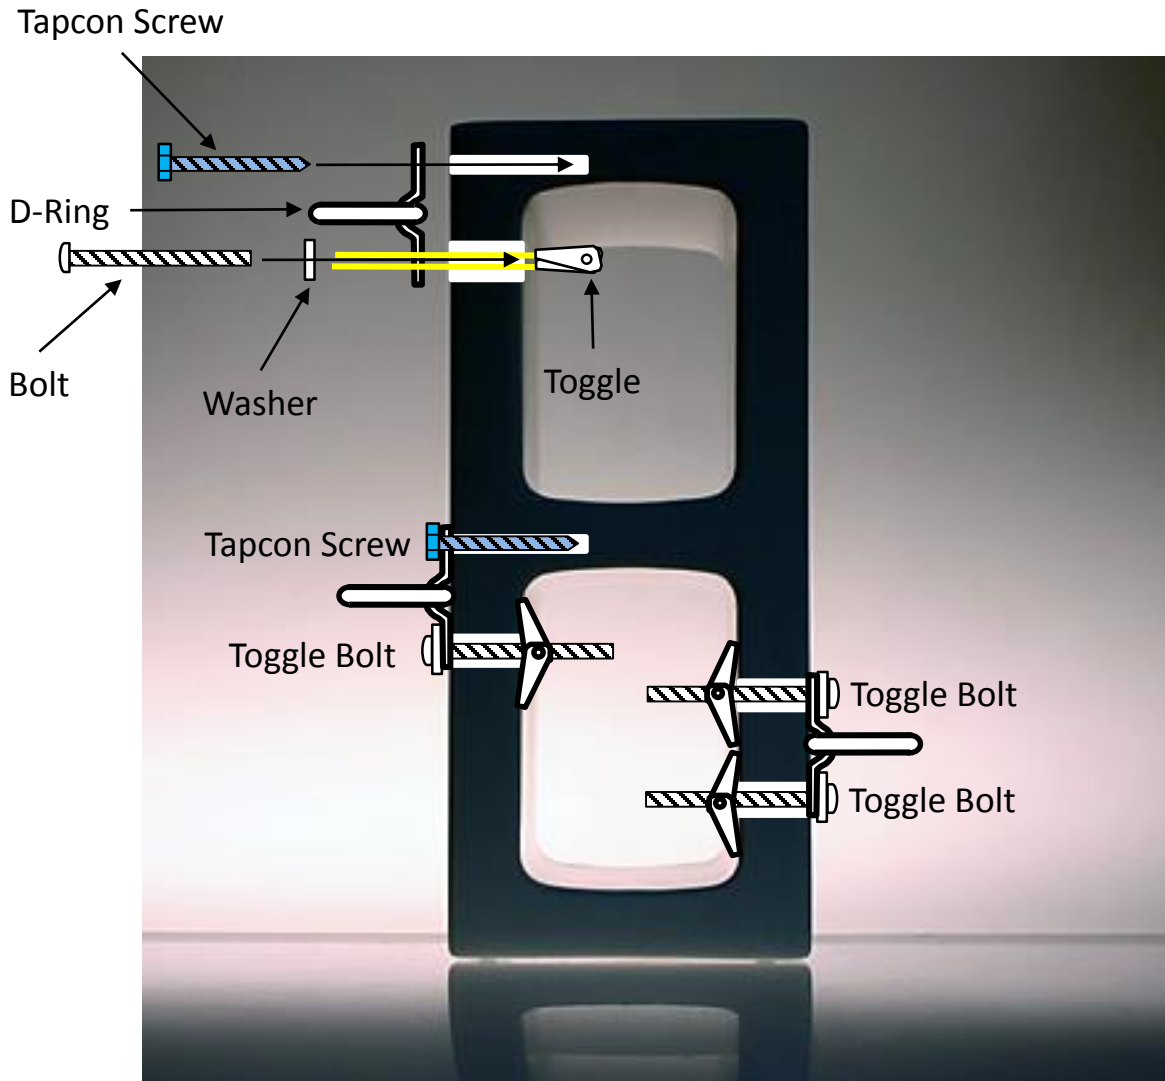
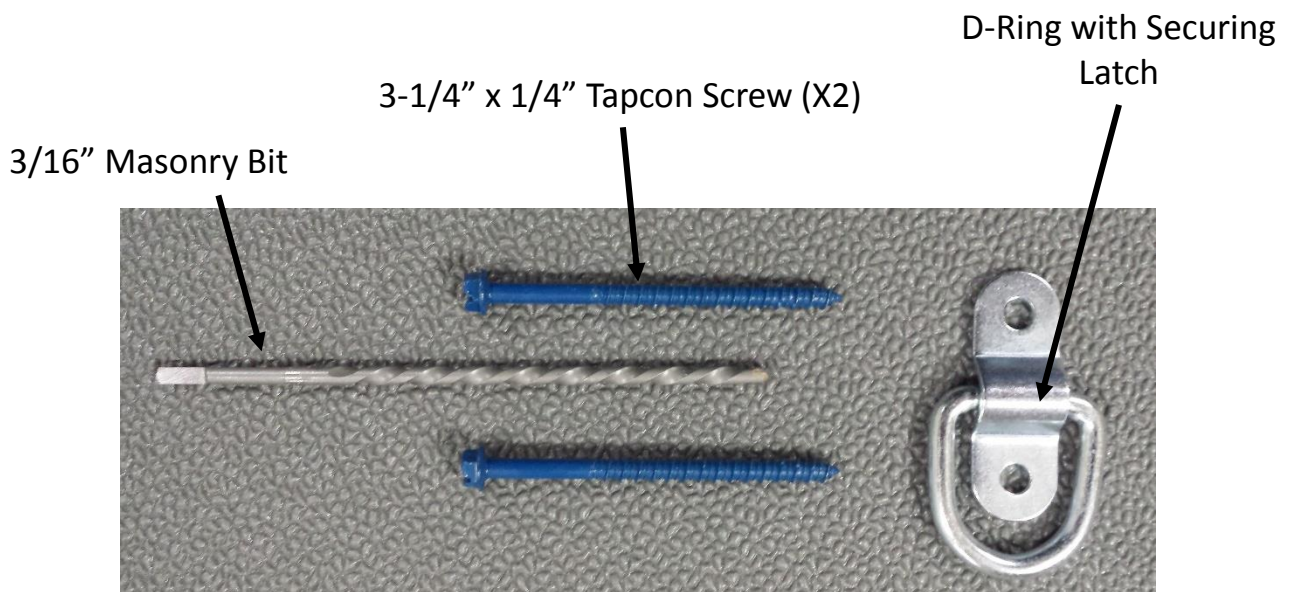
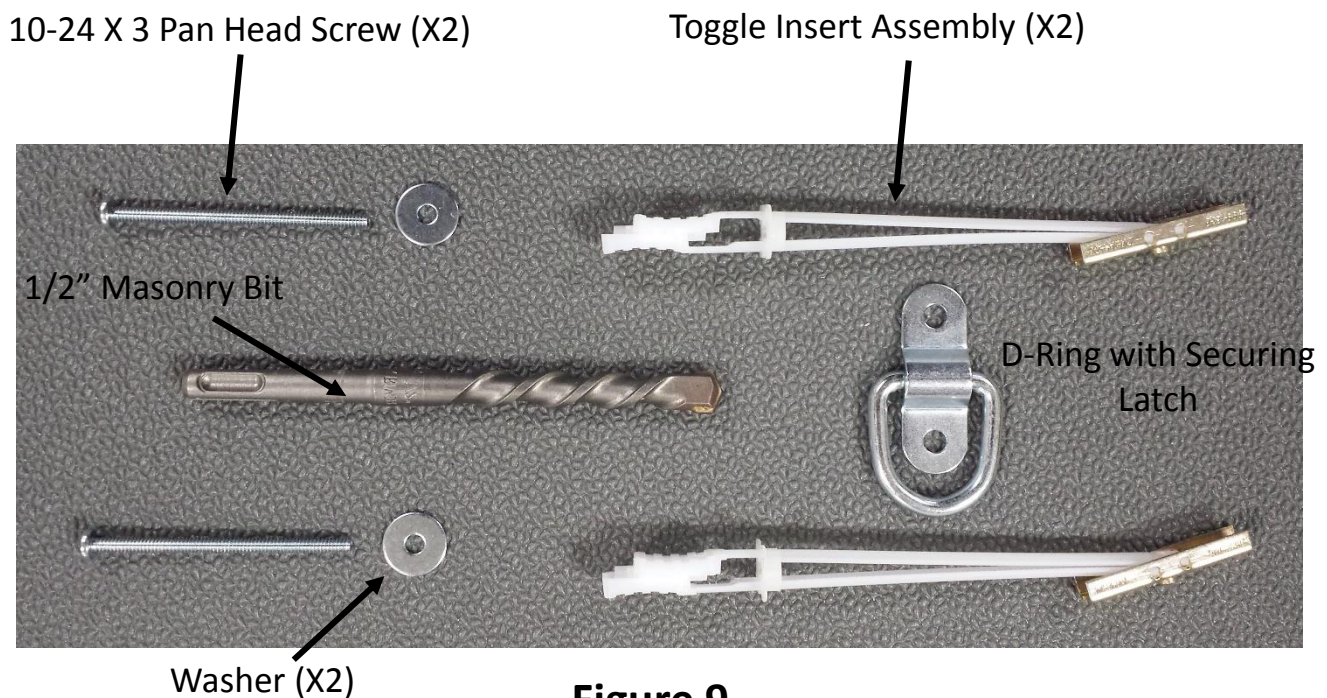

Figure 7
Figure 8
Figure 9
Step 5 – Use the 1/2" masonry drill bit to further expand the 3/16" hollow drill through holes so that they may accept the 1/2" diameter Toggle fastener. Reference Figure 7 to see some of the different fastener combinations that may be required on any given D-Ring mounting latch depending on whether the drill bit went through a hollow or through solid material. Figure 8 shows the required mounting hardware and drill bit required if mounting holes encountered solid material for the complete depth of the drill out. Figure 9 shows the required mounting hardware and drill bits required if the 3/16" masonry bit broke into a hollow in the cinder block.
Step 5 – After drilling all eight holes with the 3/16” masonry bit, use the ½” masonry bit and re-drill all “Hollow Drill Throughs” to expand the initial 3/16” diameter hole to a ½” diameter hole so that the Toggle can pass through the hole and be inserted into the hollow. Figure 7 below shows examples of some fastener combinations you may be required to use based on where holes are drilled into the cinder block. Refer to Figures 8 and 9 to see the actual fastener hardware used Solid and Hollow Drill Throughs.
Step 5 – For cinder block walls use the 1/2" masonry drill bit to further expand the 3/16" hollow drill through holes so that they may accept the 1/2" diameter Toggle fastener. Reference Figure 7 to see some of the different fastener combinations that may be required on any given D-Ring mounting latch depending on whether the drill bit went through a hollow or through solid material. Figure 8 shows the required mounting hardware and drill bit required if mounting holes encountered solid material for the complete depth of the drill out which will always be the case for a solid cement wall and sometimes be the case for a cinder block wall. Figure 9 shows the required mounting hardware and drill bits required if the 3/16" masonry bit broke into a hollow in a cinder block wall.